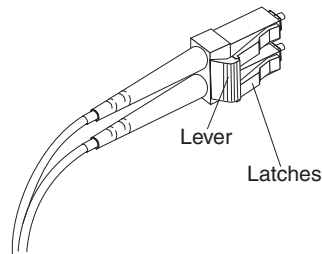
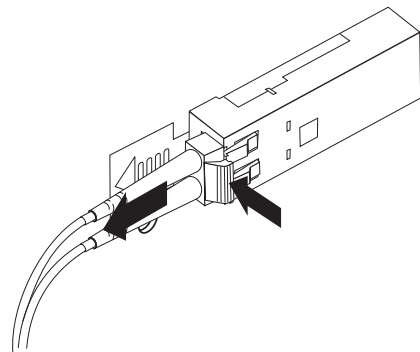

Figure 9. LC-LC Fibre Channel Cable lever and latches
Figure 10. Removing the LC-LC Fibre Channel cable
1. On the end of the LC-LC cable that connects into the SFP module or host bus adapter, press down and hold the lever to release the latches, as shown in Figure 9. Carefully pull on the connector to remove the cable from the SFP module, (ensure that the levers are in the released position when removing the cable) as shown in Figure 10. When removing the cable, make sure you do not grasp the SFP module plastic tab.